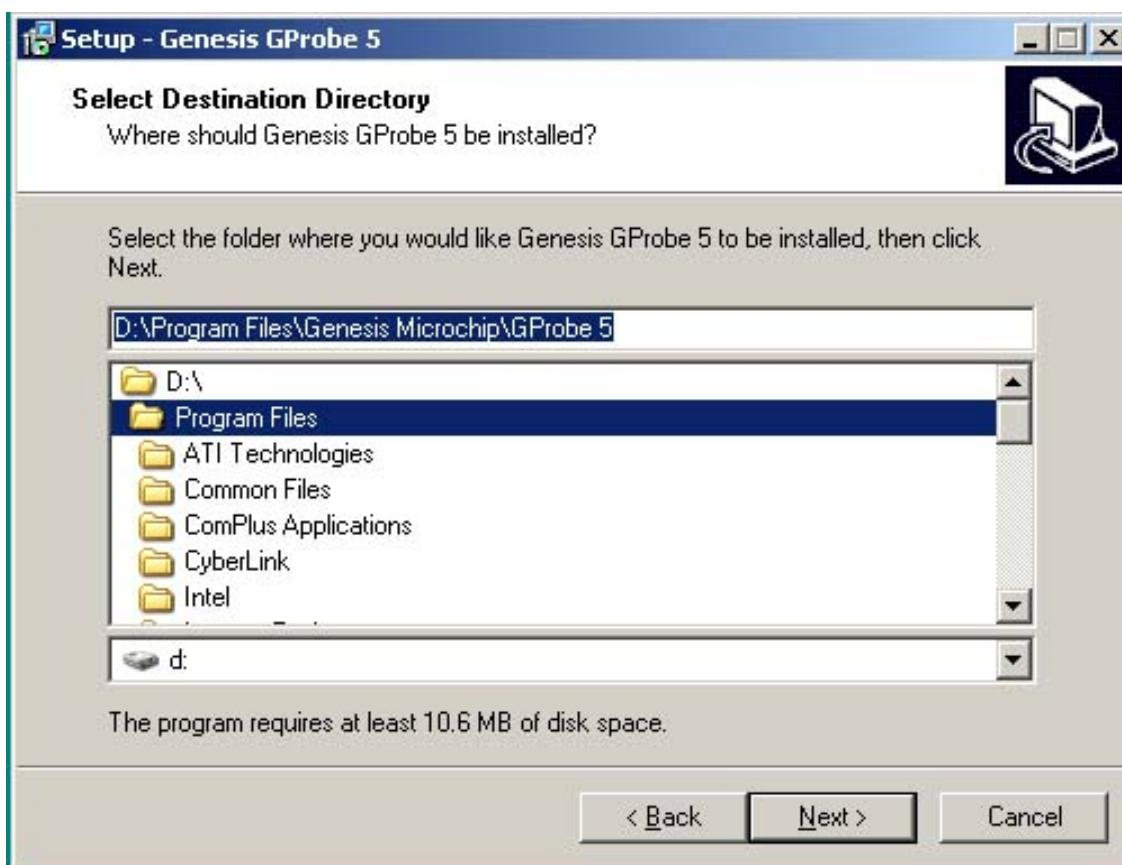

Fig. 0.4
0.4 Keep on press “Next”, see Fig. 0.4